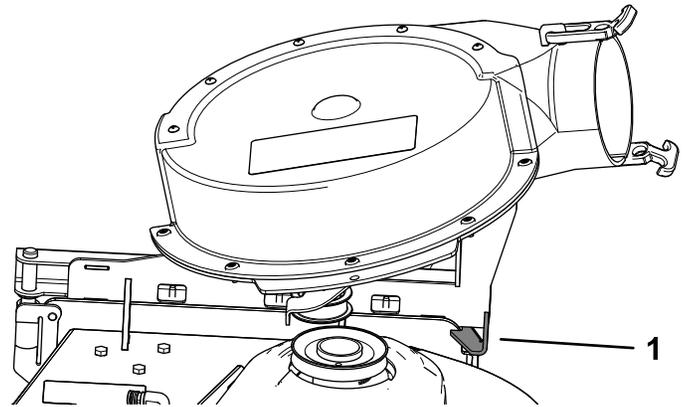

Figure 24
**Note:** The blower assembly should automatically latch as shown in Figure 24.